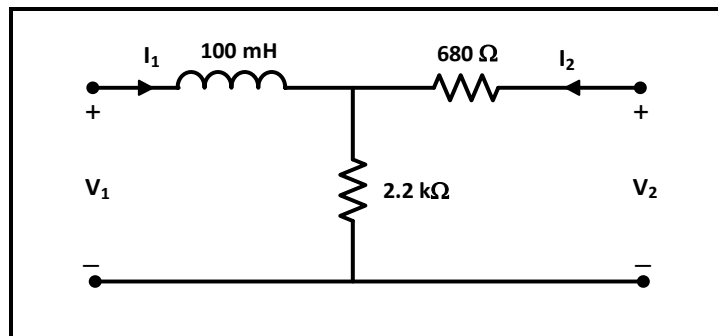

Figure 11.6
2. Simulate the circuits in Figures 11.6 to Figure 11.8 and use current and voltage values resulting from simulation to calculate the A-parameters for each circuit, note that you must apply the same steps in the procedure. (The amplitude of the sinusoidal voltage source used in simulating circuits in this step must be $(4 \times 2 \times \sqrt{2})$ and its frequency is 1 kHz).
1. Connect the circuit of Figure 11.6.
Question 4: Using data in Table 11.4 calculate A-parameters for the circuit of figure 11.6.
3. Connect the two circuits in figures 11.6 and 11.7 as cascade interconnected two port networks as shown in figure 11.8.
Question 6: Using data in Table 11.6 calculate A-parameters for the circuit of figure 11.8, verify that A-parameters of circuit in figure 11.8 is equal to the **matrix multiplication** of A-parameters of the circuits in figures 11.6 and 11.7.
$$\begin{vmatrix} a_{11} & a_{12} \\ a_{21} & a_{22} \end{vmatrix}_{\text{Figure 11.8}} = \begin{vmatrix} a_{11} & a_{12} \\ a_{21} & a_{22} \end{vmatrix}_{\text{Figure 11.6}} \times \begin{vmatrix} a_{11} & a_{12} \\ a_{21} & a_{22} \end{vmatrix}_{\text{Figure 11.7}}$$